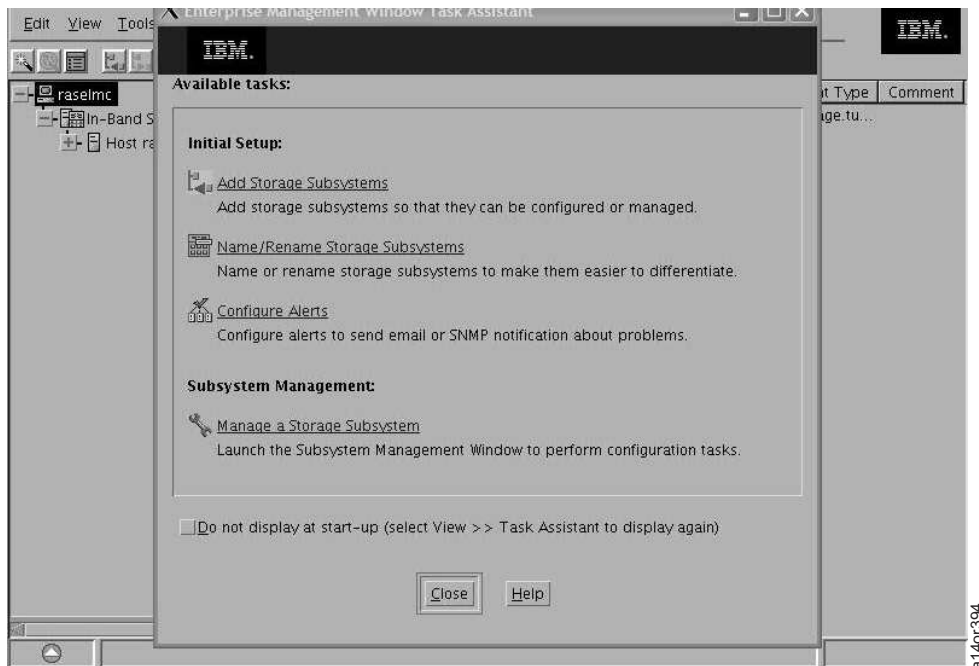

Figure 248. Storage Manager GUI Initial Screen
3. From the Main Menu, select **Browser Functions > Storage Manager GUI Functions > Launch GUI**. You see the browser window in Figure 248 on page 212.